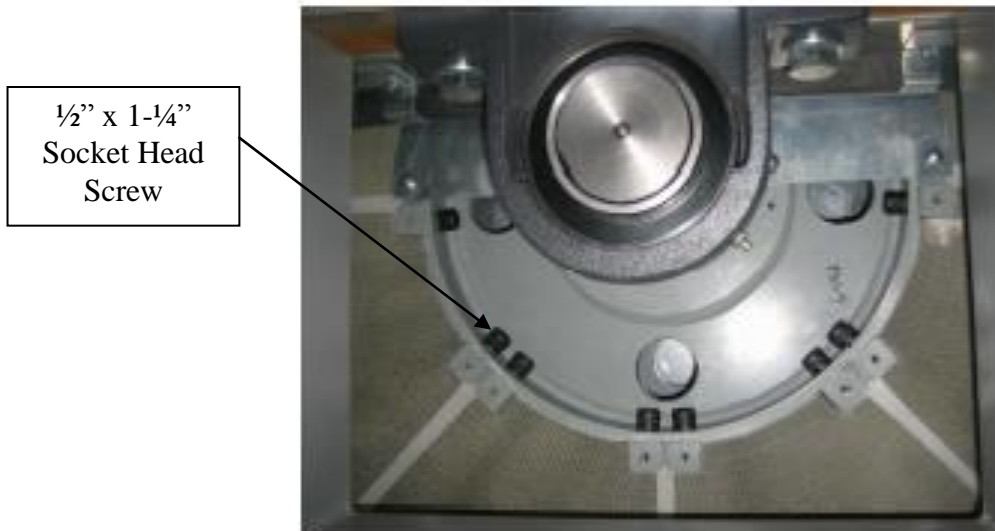

Figure 7
- Once the rotor is properly seated and flush with the hub, install the provided $\frac{1}{2}$ " x $1\text{-}\frac{1}{4}$ " socket head screws (with conical-spring washers) through the hub and into the spoke assembly (see Figure 7).